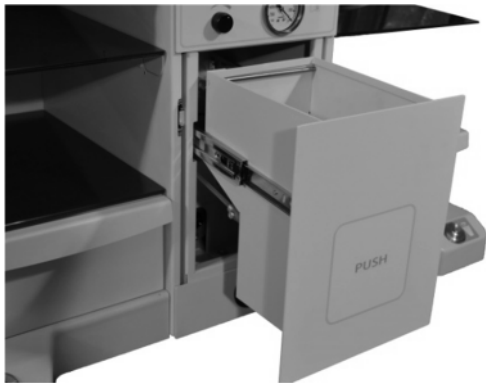

Fig. 90
1. Pressing the buttons **M16** or **M16A**, open the bin **M8** (Fig.90).